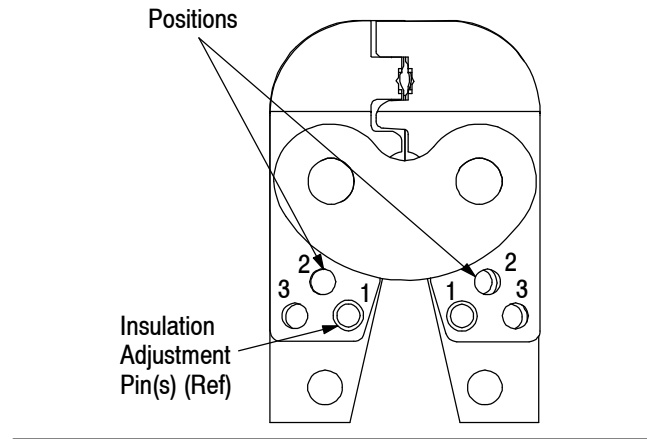

Figure 5
1. Insert insulation adjustment pins in Position 3. See Figure 5.
Always place both adjustment pins in the same position. See Figure 5.